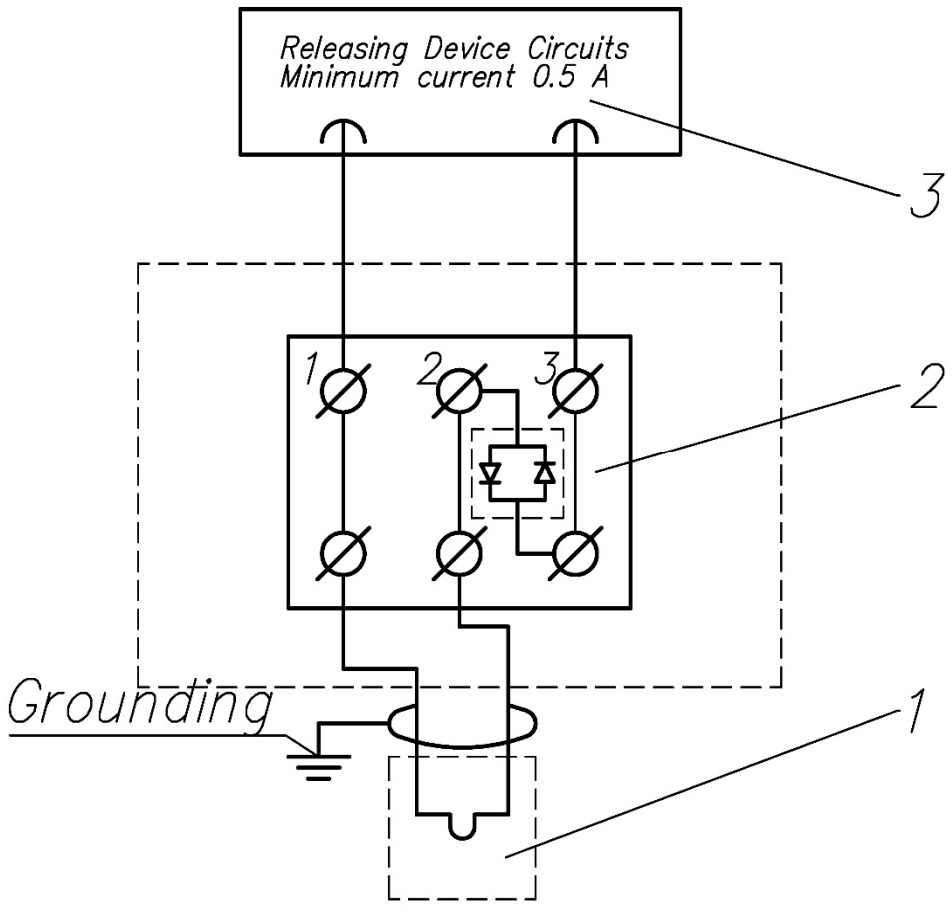

Fig 3. Module connection scheme.
8.9. Connect the starting unit circuit to the control device of the fire-extinguishing system. Fig. 3 shows the connection scheme of the module to the automatic starting unit «C2000-KPB».